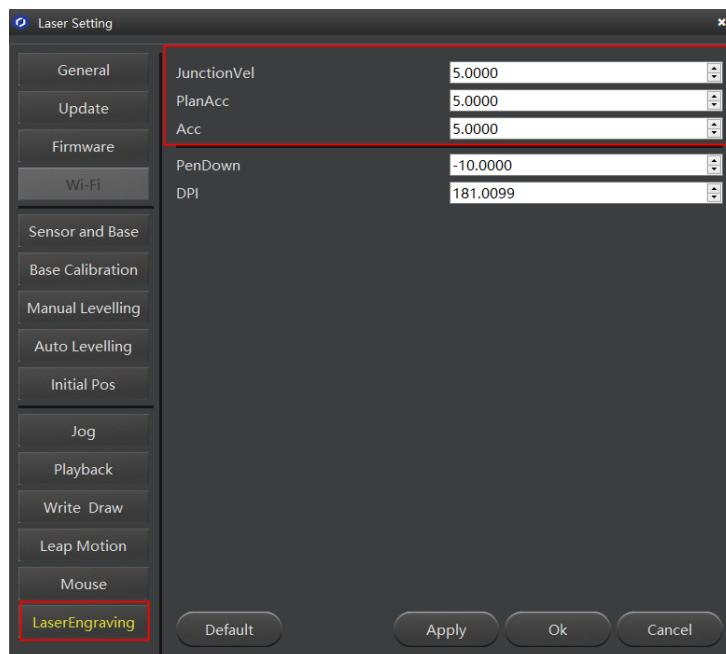

Figure 5.85 Set the parameters of laser engraving
2. Set the **JunctionVel** (junction velocity), **PlanAcc** (linear acceleration), and **Acc (acceleration)**, for example, set all to 5, as shown in Figure 5.85.